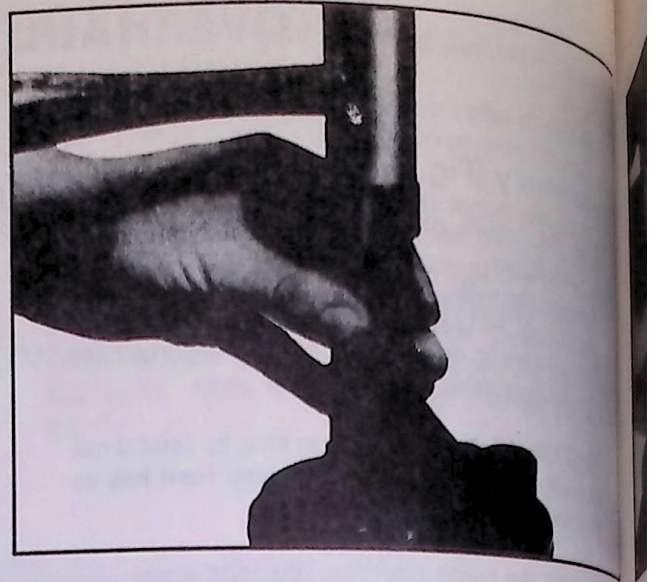

Fig. 21—Installing Seal Using Tool J-22670
1. Install a new shaft seal in the pump housing, using Tool J- 22670 as shown in Figure 21.